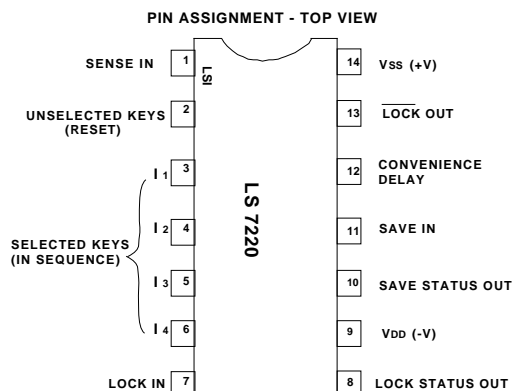

FIGURE 1.
- LS7220 (DIP), LS7220-S (SOIC) - See Figure 1